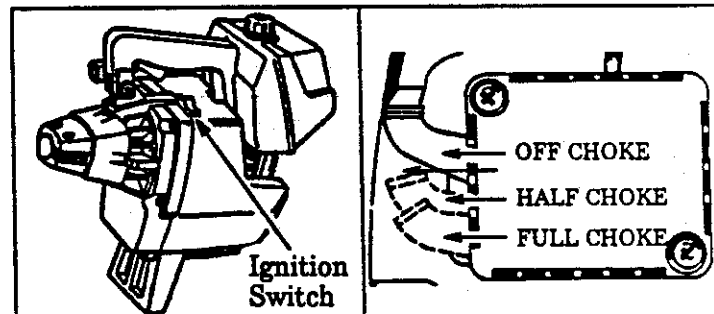

Figure 11
- Move Ignition switch to "On." Figure 11 .
- Move ignition switch to "On." Figure 11 .
- b. Move the Ignition Switch to the "Off" position. Figure 11.